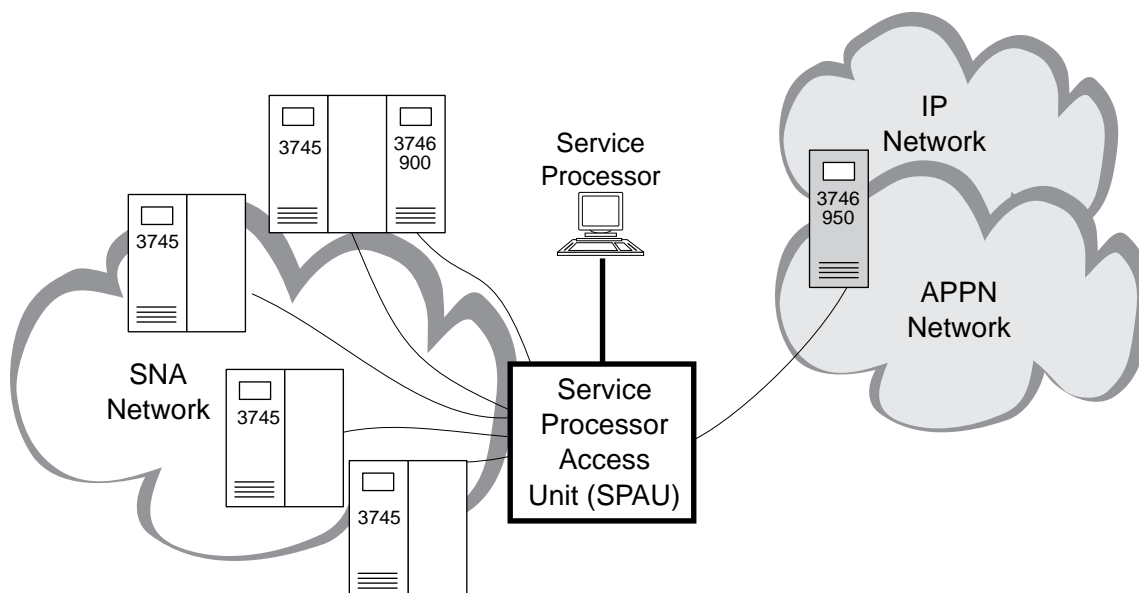

Figure 1-3. Example 1 of a Maximum Configuration. Service Processor running four 3745s, one 3746-900 (SNA), and one 3746-950 (IP, or APPN/HPR).
- Four 3745s, one 3746-900 operating in an SNA mode (controlled by NCP), and one 3746-950 (see Figure 1-3 on page 1-4).